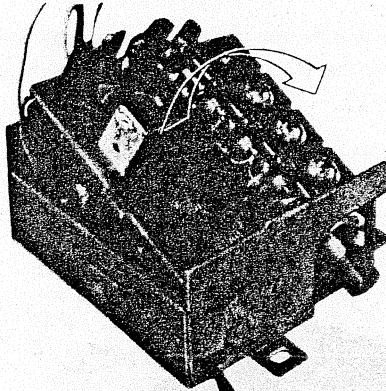

Fig. 2-20
6. Remove the circuit board in the direction shown by the arrow in Fig. 2-20.